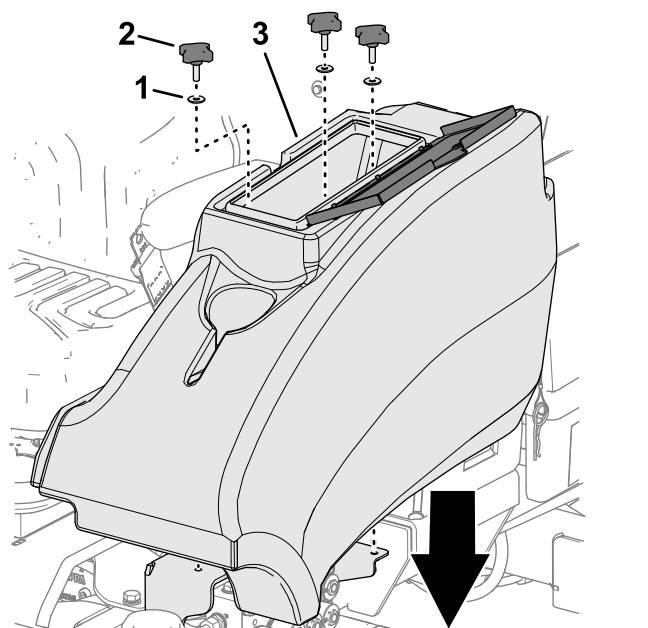

Figure 57
2. Assemble the storage compartment to the machine with the 3 knobs and 3 washers (Figure 57)